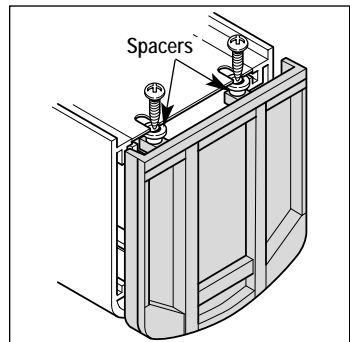

Figure 6. Spacer placement
5. Reassemble the car in the reverse order. On Baggage and Combination cars, be sure the brass eyelets beneath the screw heads on the end caps sit beneath the metal frame. Refer to Figure 6.